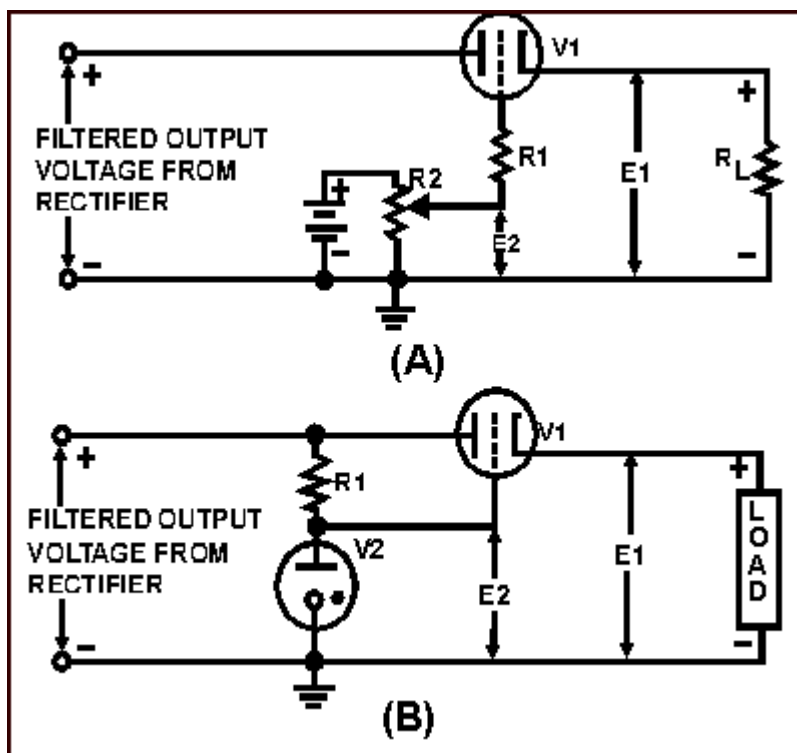

Figure 3-48.—Electron tube voltage regulator using a battery for the fixed bias
Refer to figure 3-48, view (A). The resistance of V1 is established initially by the bias on the tube. Assume that the voltage across the load is at the desired value. Then the cathode is positive with respect to ground by some voltage (E_L). The grid can be made positive relative to ground by a voltage (E_2) that is less than E_1 . The potentiometer R2 is adjusted until the bias (grid-to-cathode voltage), which is $E_2 - E_1$, is sufficient to allow V1 to pass a current equal to the desired load current. With this bias, the resistance of V1 is established at the proper value to reduce the rectifier output voltage to the desired load voltage.